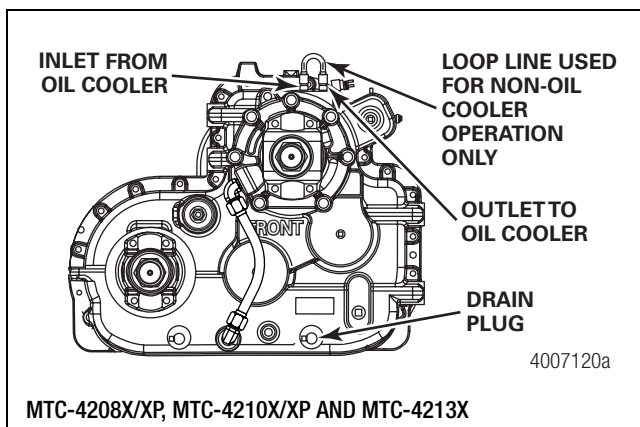

Figure 3.1
5. Remove the magnetic drain plug from the bottom of the transfer case. Drain and discard the oil correctly. Clean the magnetic drain plug. Figure 3.1 and Figure 3.2.
7. Disconnect the cooler lines. Figure 3.1 and Figure 3.2.